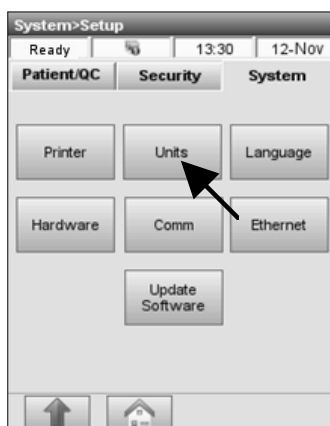

Fig. 3-76 Select Units
2. In the **<System Setup>** menu, press the **<System>** tab, then press **<Units>** (Fig. 3-76).